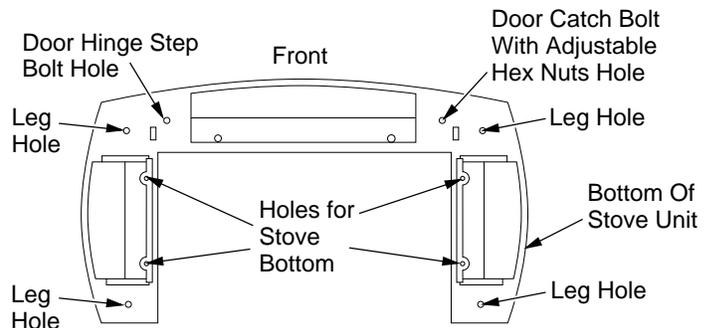
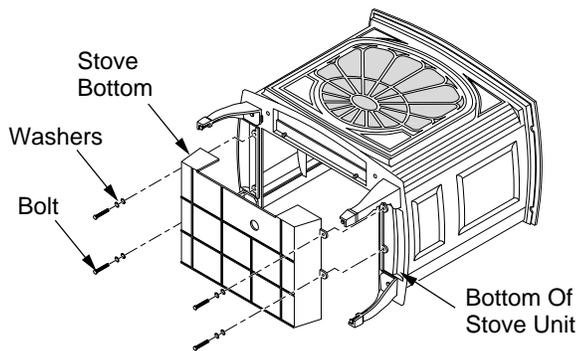
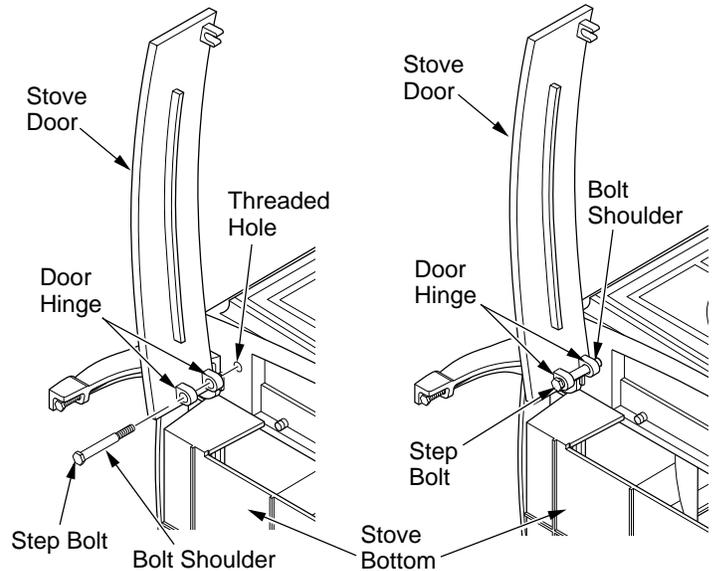
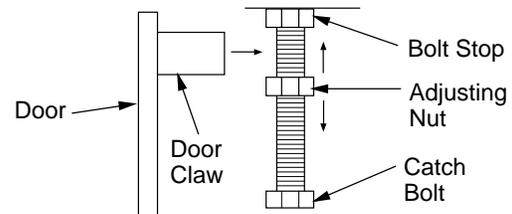

Figure 8 - Locating Threaded Holes for Stove Bottom, Legs, and Door Attachment (Appearance May Vary Depending on Model)
Figure 10 - Attaching Stove Bottom (Amity™ Model Shown)
Figure 11 - Attaching Stove Door (Appearance May Vary Depending on Model)
Figure 12 - Catch Bolt and Door Claw Orientation
8. Fasten each leg to stove with four (4) M8 x 1.25 - 20mm bolts. Use a flat washer and lock washer with each bolt. Tighten bolts into threaded holes on stove body (see Figures 8 and 9). Use an adjustable wrench or a 12mm socket.
9. Fasten stove bottom to stove with four (4) M6 x 1 - 25mm bolts. Use a flat washer and lock washer with each bolt. Tighten bolts into threaded holes on stove body (see Figure 8, page 8, and Figure 10). Use an adjustable wrench or a 10mm socket.
10. Attach stove door by inserting step bolt through door hinge pivot hole and into threaded hole in stove body (see Figure 8, page 8 and Figure 11). Use an adjustable wrench or a 12mm socket to fasten step bolt. Tighten step bolt until snug. Make sure door moves freely.
11. Install door catch bolt (M8 x 1.25-55mm with two M8 hex nuts) into threaded hole on stove body (see Figure 8, page 8). Use an adjustable wrench or a 12mm socket. The catch bolt has two hex nuts attached to it (see Figure 12). The top nut is a bolt stop and the bottom nut is for door leveling adjustment.
16. Fasten back panel to stove with six (6) M6 x 1 - 20mm bolts and washers. Make sure product identification label is located on the outside in lower left-hand corner.